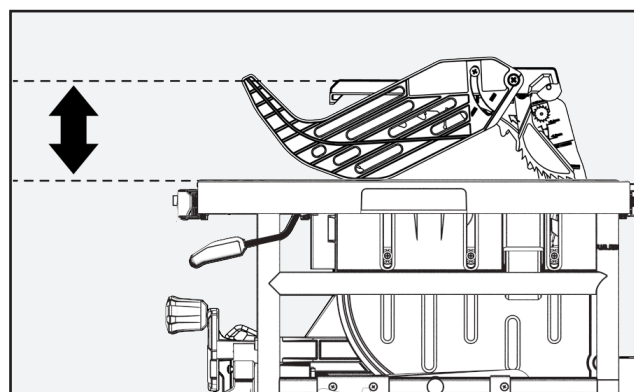

FIGURE 15
2. Rotate the Blade Guard Assembly toward the front of the Saw until the Support Arms of the Blade Guard Assembly are parallel to the Table see Figure 15.